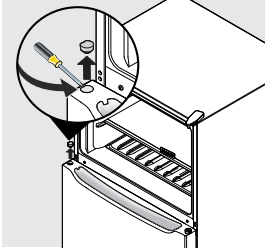

Figure 7
1. With a flathead screwdriver, pry out the center hinge bearing plug from the left side of the refrigerator door and discard (see Figure 7).